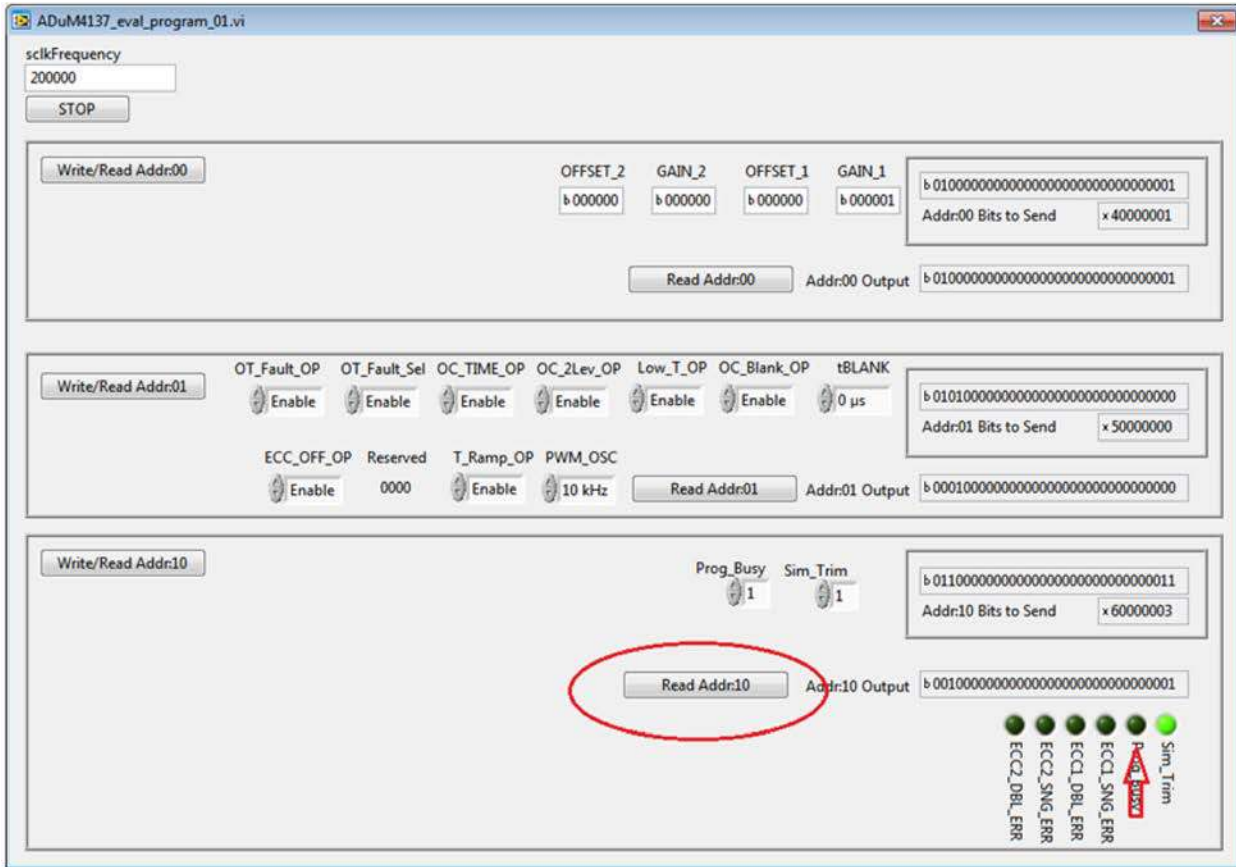

Figure 15. ADuM4137 Showing Programming Complete
2. After this programming, click **Read Addr:10**. Once the PROG_BUSY bit changes to 0, the EEPROM is programmed. The programming takes approximately 10 μs. Therefore, a user generally cannot click the read button fast enough to see 1 in the **Prog_Busy** box the second time, but an automated program can (see Figure 15).